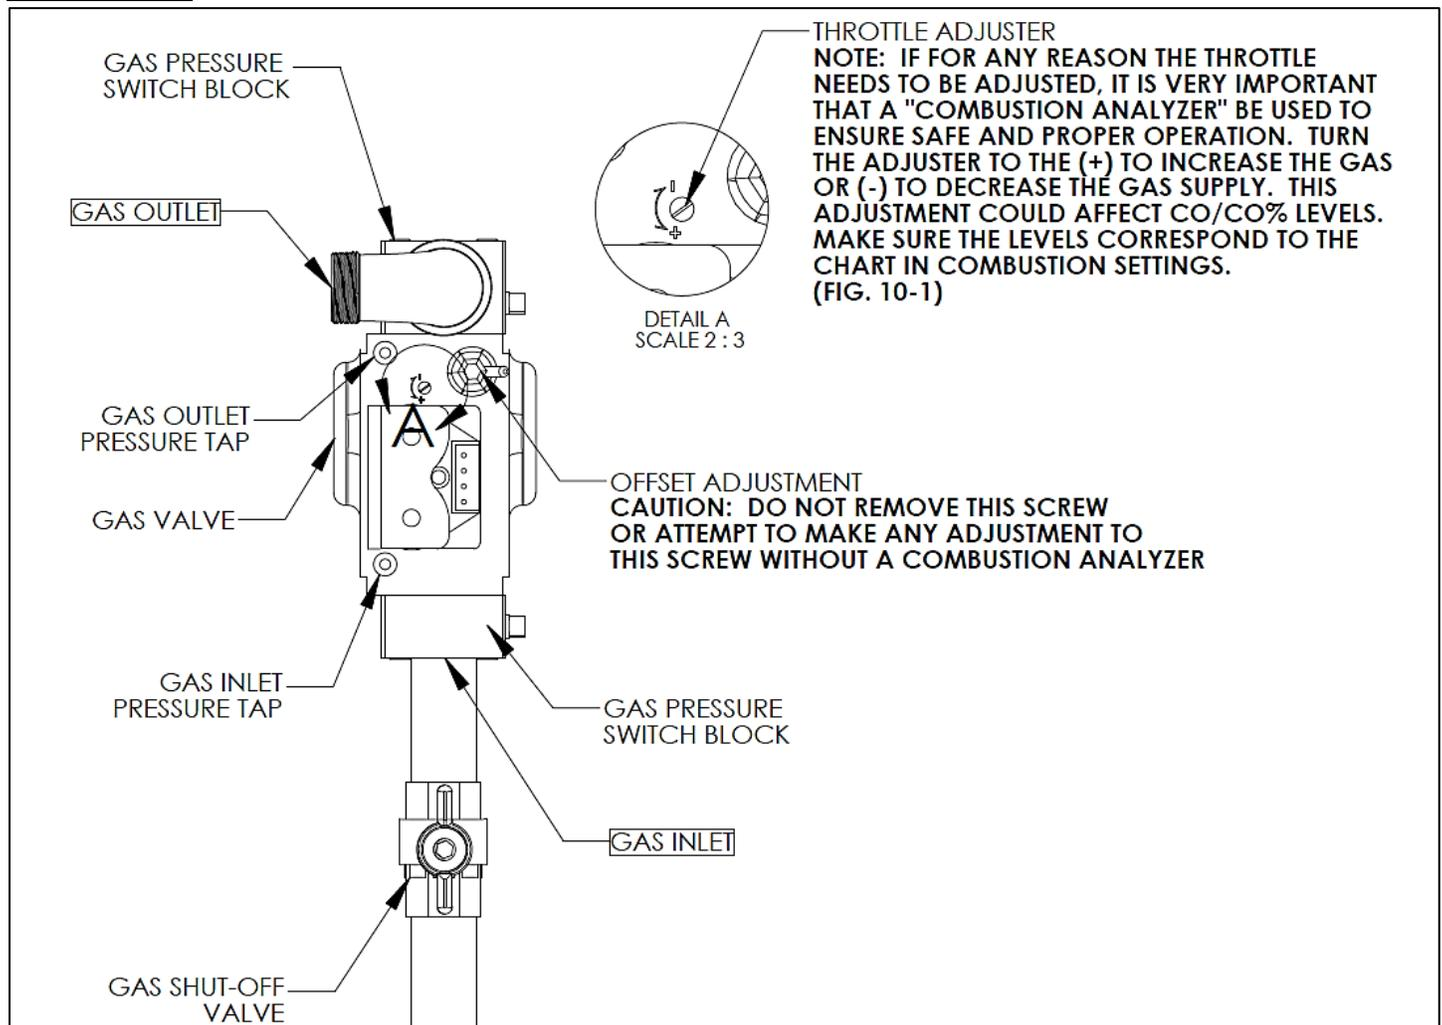

Figure 21 – Mod Con 300 / 500 Gas Valve
- Loosen the pressure tap with a small screwdriver. Refer to Figures 21 and 22 for locations.